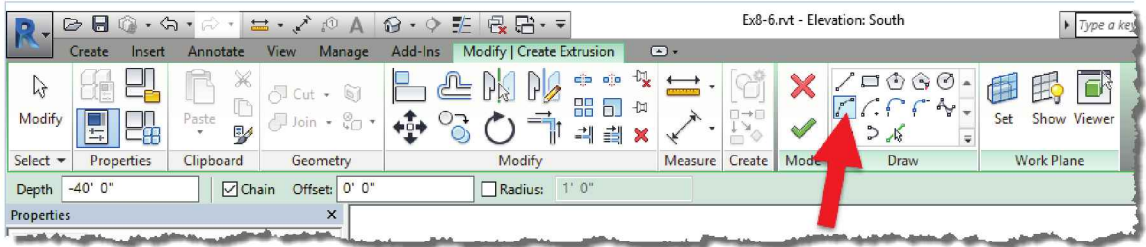

FIGURE 8-6.17 Create Extrusion contextual tab
Notice the *Ribbon* changed again to show tools related to drawing an extruded solid (Figure 8-6.17).
44. Click **Arc** (Start End Radius) from the *Draw* panel on the Ribbon (Figure 8-6.17).